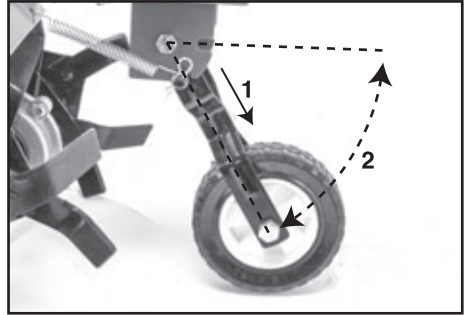

FIG.12
9.4 LIFT FRONT WHEEL - FIG. 12